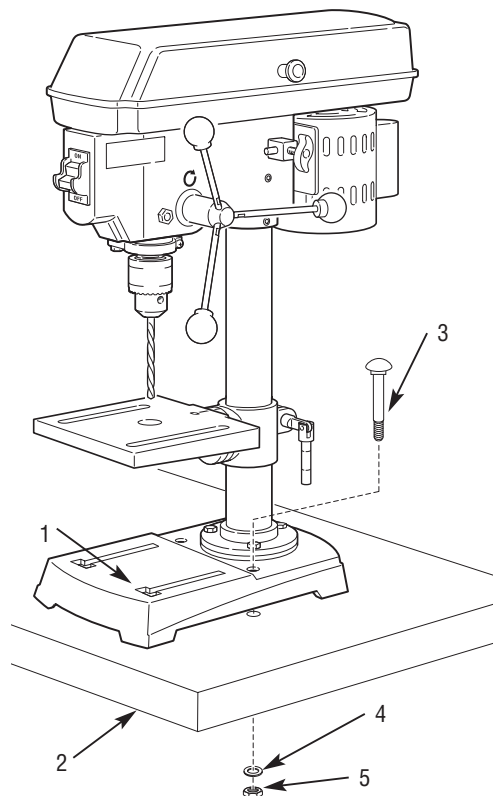

FIGURE 8.
1. Place the drill press (1) on the workbench (2) as desired.
2. Secure the drill press (1) to the workbench (2) using two carriage bolts (3), flat washers (4), and nuts (5) through the holes in the drill press base. See Figure 8.